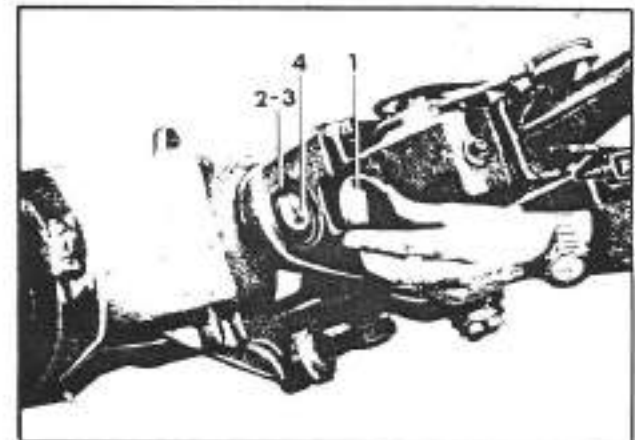

Fig. 3-42. Further dismantling of the articulated joint
- If further disassembly is required, take off the cover (1; fig. 3-42) and remove the retaining ring (2; fig. 3-42), the bearing (3; fig. 3-42), and the pin (4; fig. 3-42). Perform the same operation on the group on the other side.